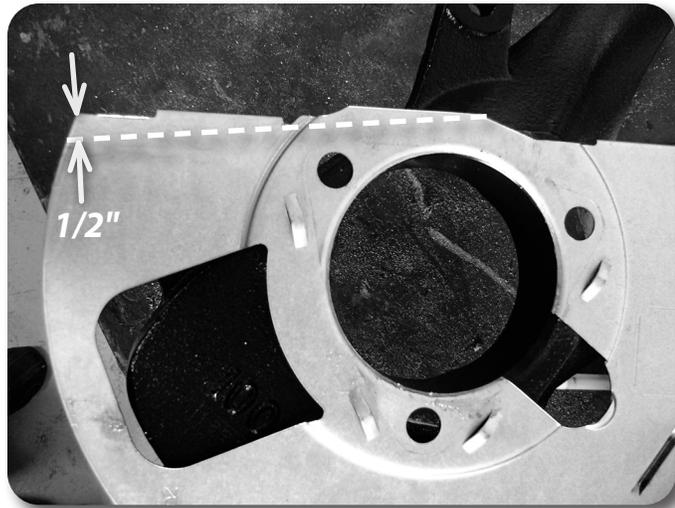

Figure 14
33. The brake dust shield needs to be trimmed. Measure in from the lower vertical edge (opposite the ABS sensor location) 1/2" and make a straight line to the edge shown in Figure 14. Cut the section off of the brake dust shield.